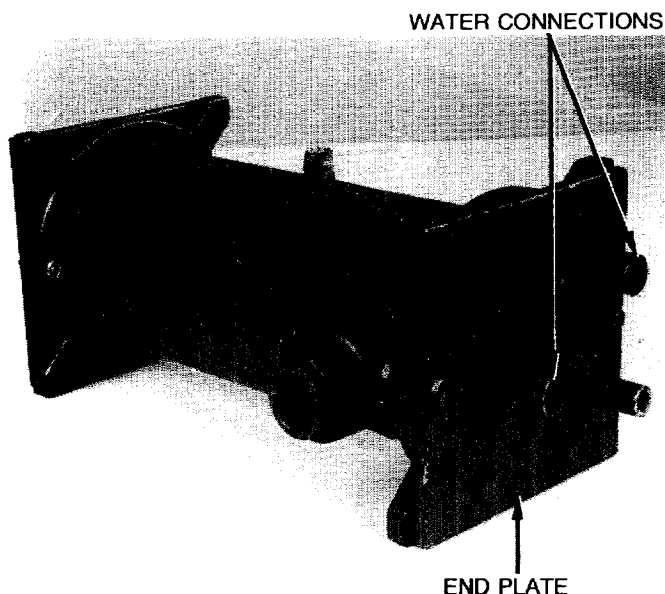

FIGURE 23 - Purge Drum
3. Close all of the water supply and return valves to the purge drum; then, disconnect the water connections at the drum. Refer to Figure 23 for an illustration of the purge drum.
- a. Remove the six end plate retaining screws from the water connection end of the purge drum; see Figure 23.